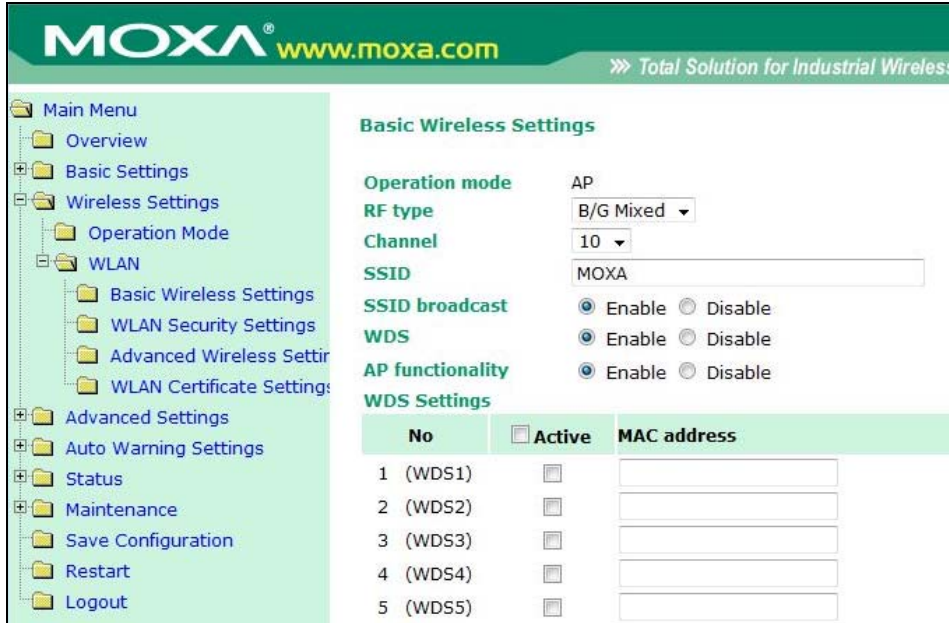

Figure 38: WDS Mode Disabled
- ii. Using an Ethernet cable, connect the switch to the LAN port on the AWK-3121/4121 identified as the communications gateway. Connect additional AWK-3121/4121s to the switch. WDS mode should NOT need to be enabled on the additional AWK-3121/4121s that are not communicating with the local network (Figure 38).
- ii. Using an Ethernet cable, connect the LAN port on the AWK-3121/4121 identified as the communications gateway (above) to the LAN port on a second AWK-3121/4121. WDS mode should not be set between these two devices (Figure 38), since they are connected over the Ethernet cable.